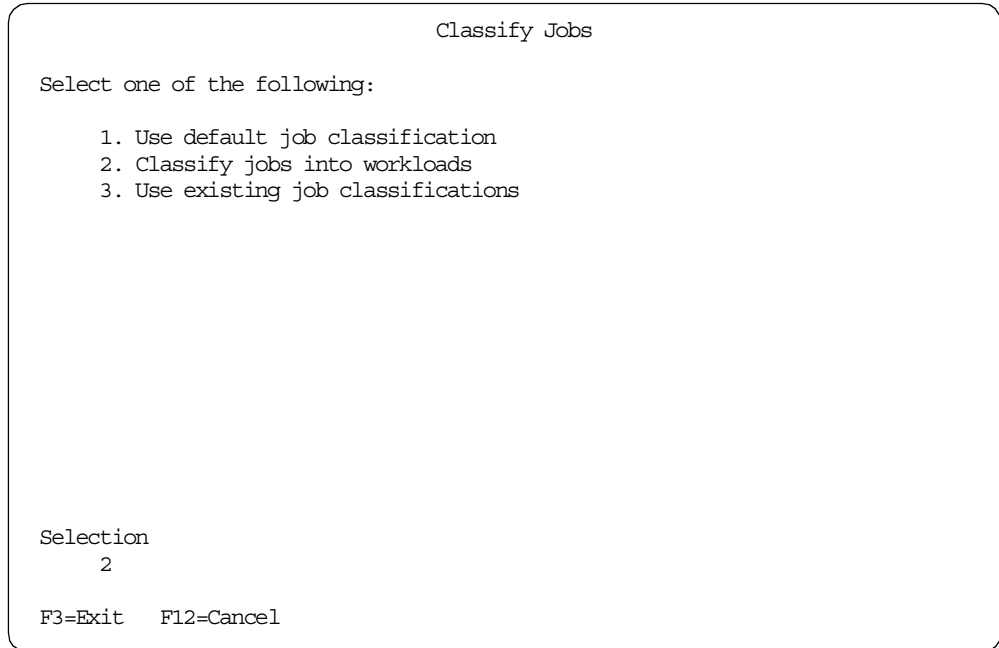

Figure 341. Classify Jobs
7. The display shown in Figure 341 on page 684 allows you to specify how you want to classify the resource usage into workloads. Enter option 2, and press Enter.